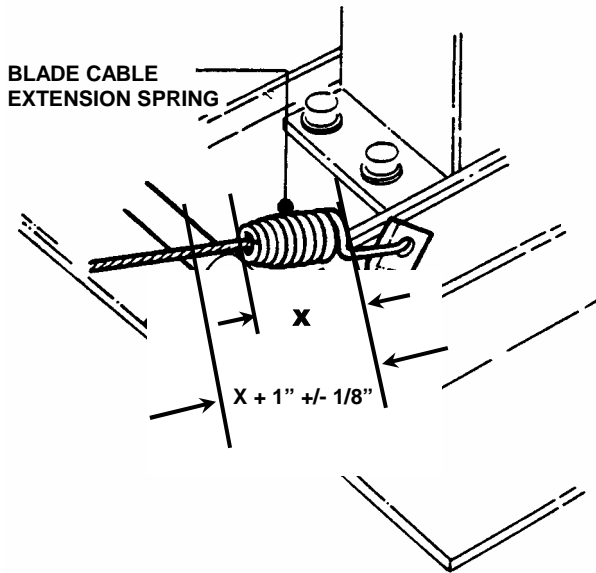

FIGURE 3.3
2. Measure blade cable extension spring. Spring should extend 1" \pm 1/8" for proper belt tension. See Figure 3.3.